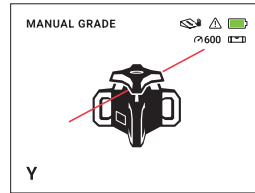

Fig.21
- Press the **X/Y selection button** on the remote control to switch to the Y-axis (Fig.21).